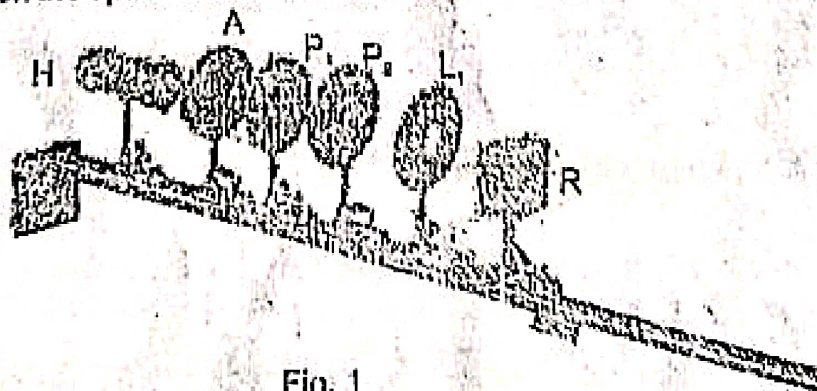

Fig. 1
- (1) Mount the lamp housing (H), adjustable slit self-centering (A), polarizer (P_1), analyzer (P_2), lens (L_1) and photo-resistor (R) on the optical bench as shown in fig 1.